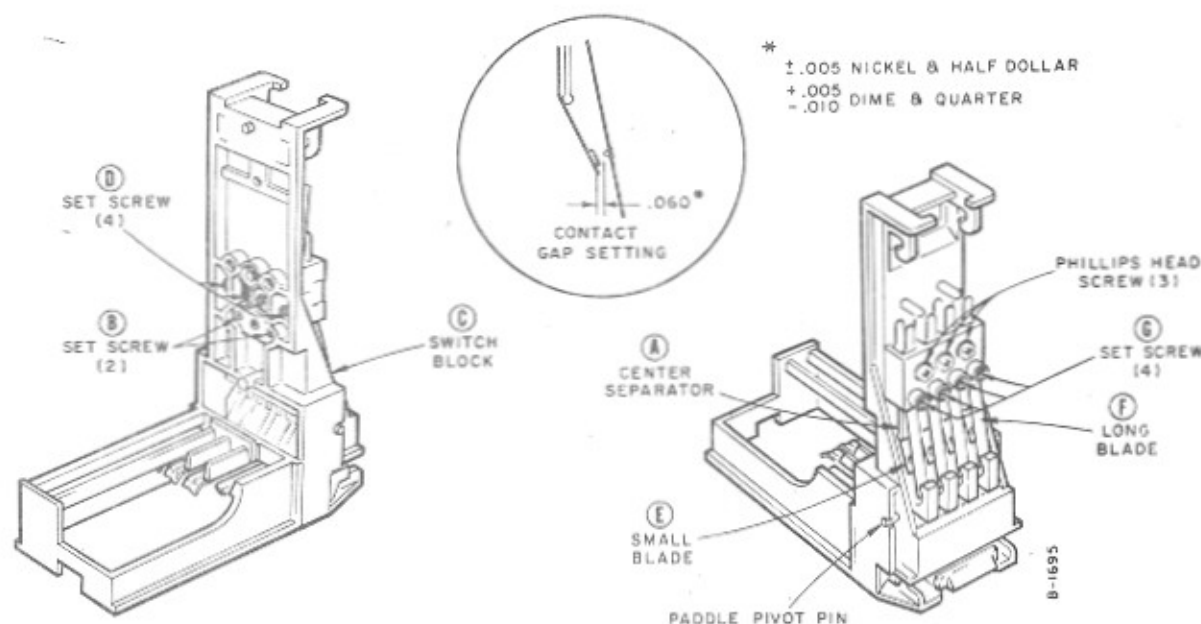

FIGURE 1.
- The three (3) Phillips head screws (shown in Figure 1) are pulled up securely. It may be necessary to hold the nut on the center screw in a rigid position when tightening the screw.
Adjust the two set screws (B, Figure 1) for the following contact gaps: